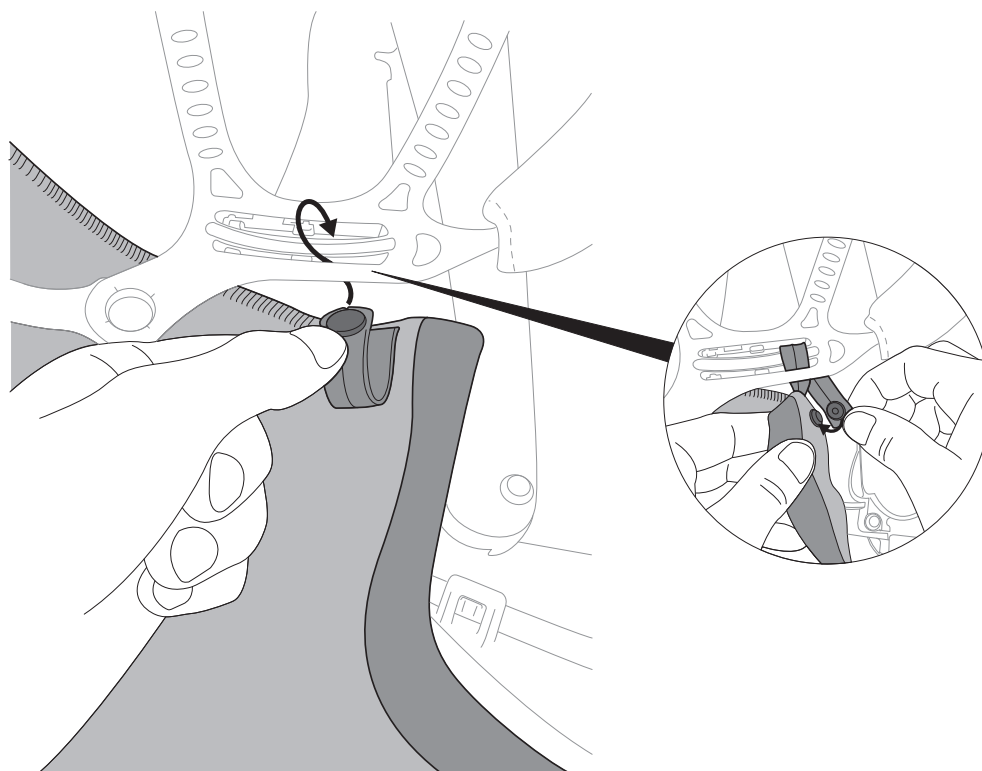

Fig. 29f
- e. Feed the right and left side shroud elastic snaps around the slide rails of the head suspension and snap into place (Fig. 29f).